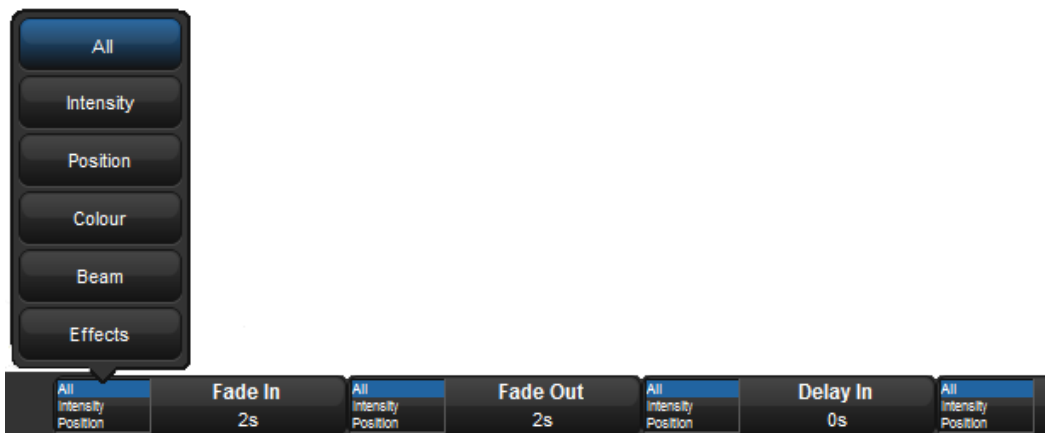

Figure 13.5. Selecting Parameter Types from the Wheels Toolbar
4. Click on Fade In, Fade Out, Delay In or Delay Out and select a parameter type; see *Figure 13.5, “Selecting Parameter Types from the Wheels Toolbar”*.